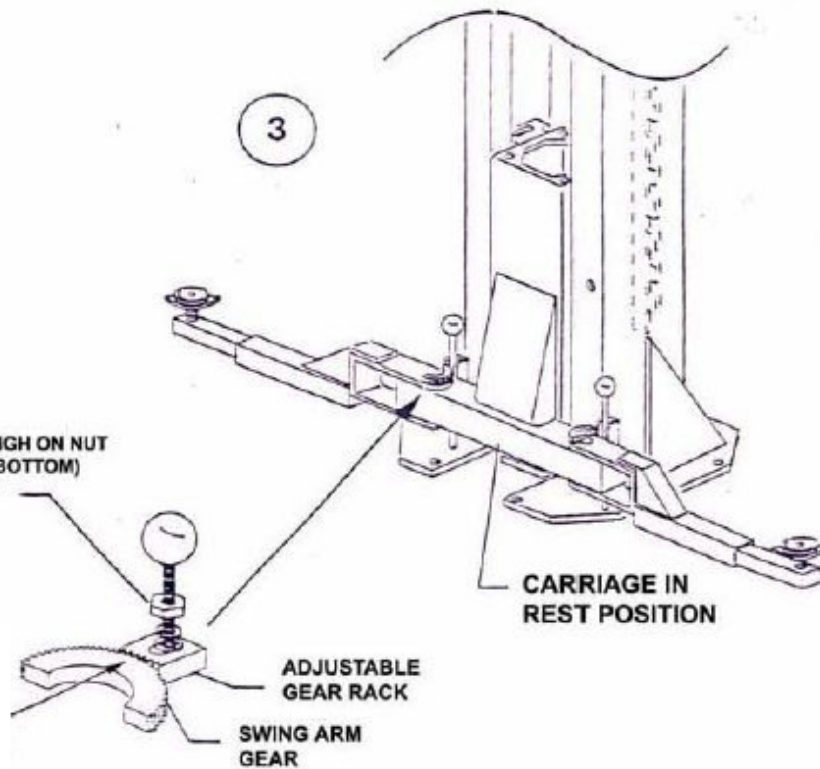

Fig. 18
- 1 Install arm restraint mechanisms to each swing arm, as shown below in (Fig. 18).